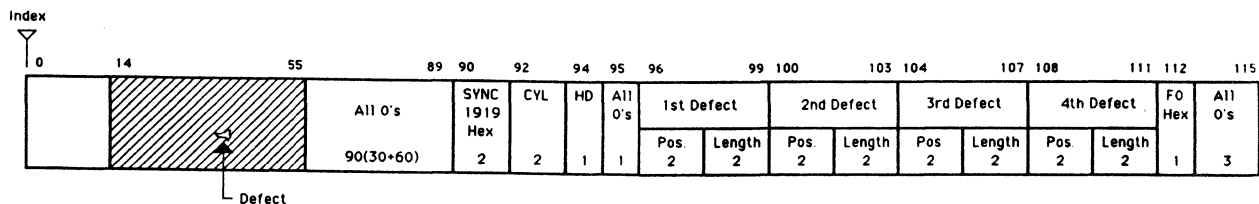

Figure 8-2. Extended Defect Map Format
7. Figure 8-2 shows the format when the beginning of a defect is located between Bytes 10 and 55; 60 bytes of zeros are added to Gap 1. In the extended defect map format, the defect map is always relocated to a defect-free area.